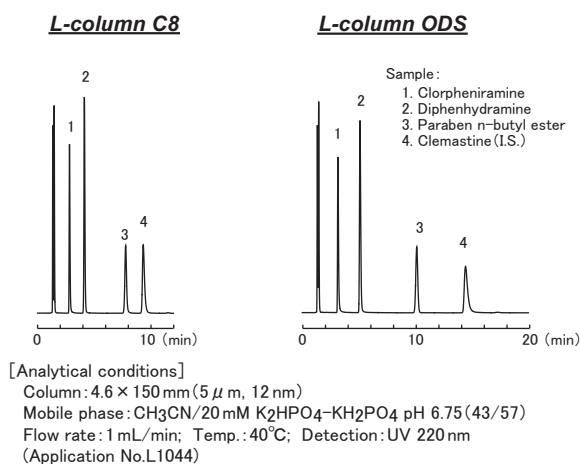

Fig. 25 Chromatogram of antihistamine
**L-column C8** reduces the elution time for hydrophobic compounds and shows good peak shape even for basic samples such as antihistamines (Fig. 25).